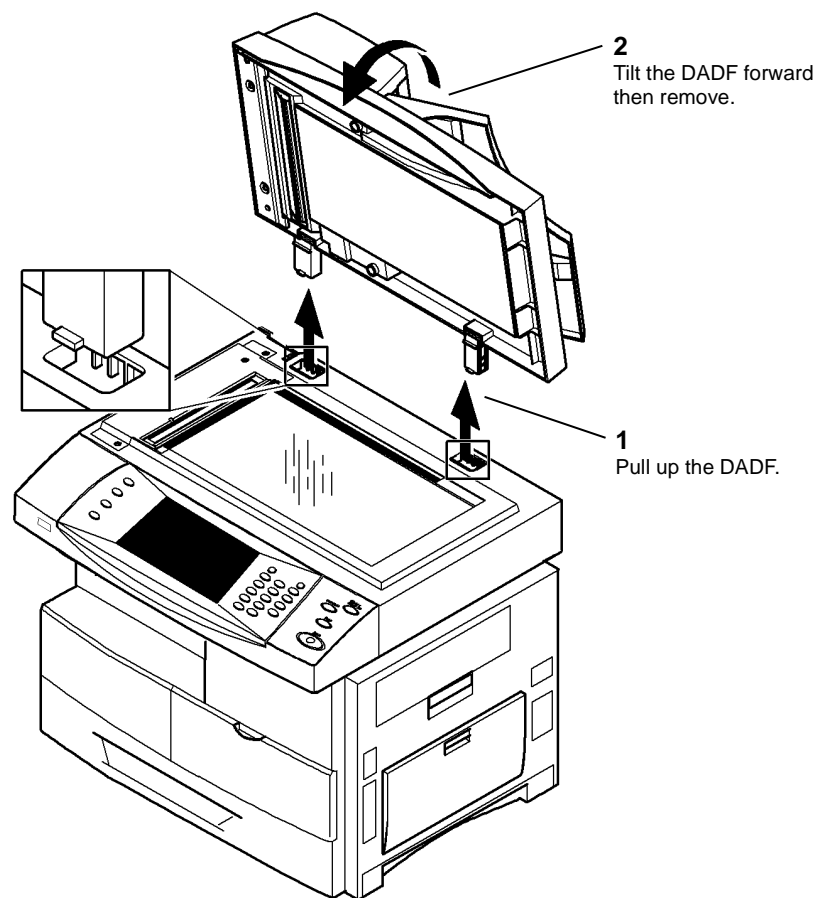

Figure 2 DADF Removal
7. Remove the DADF, Figure 2. Place the DADF on a solid flat surface.